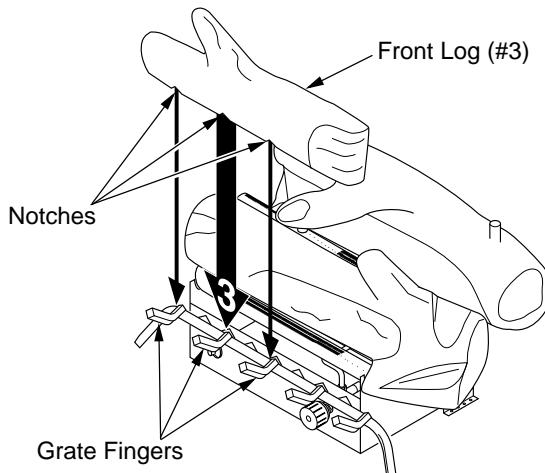

Figure 23 - Installing Front Log (#3)
- Locate the notches in the bottom of the front log (#3). Place the front log on the grate fingers. Make sure the notches of the front log line up with the grate fingers (see Figure 23).